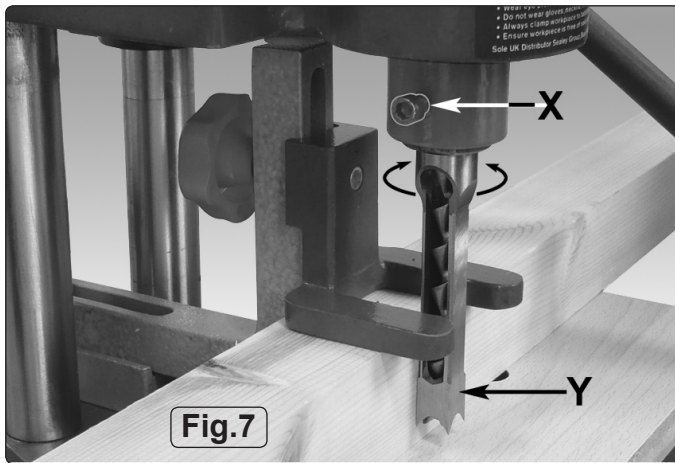
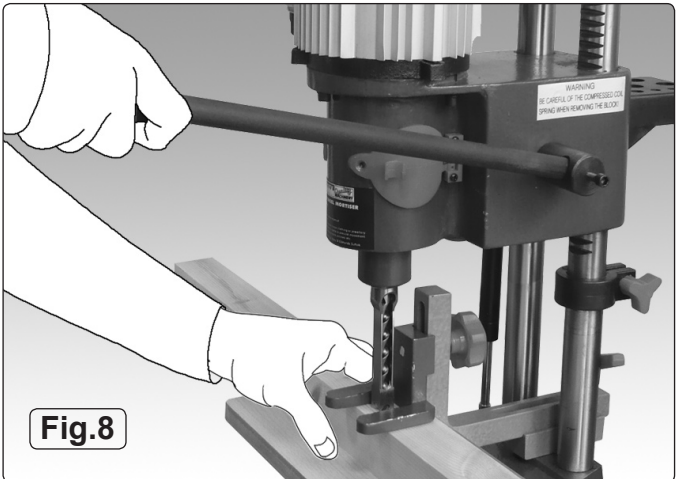

Fig.7
Fig.8
- 6.1.1 **Handle.** Use the handle (Fig.8) to raise and lower the head.
- 6.4 Parallel chisel adjustment.** See Fig.7. Adjust the position of the workpiece until it is almost touching the back of the chisel (Y). Loosen the chisel retaining screw (X) to allow it to rotate and edge the workpiece up to the back of the chisel to ensure that the chisel is parallel to the surface of the workpiece. Re-tighten the locking screw and reposition the workpiece for cutting. See Fig.8.